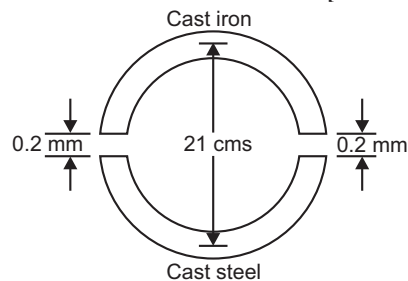

Fig. 8.23
10. A ring [See Fig. 8.23] has a diameter of 21 cm and a cross-sectional area of  $10 \text{ cm}^2$ . The ring is made up of semicircular sections of cast iron and cast steel with each joint having a reluctance equal to an air gap of 0.2 mm. Find the ampere turns required to produce a flux of  $8 \times 10^{-4} \text{ Wb}$ . The relative permeabilities of cast steel and cast iron are 800 and 166 respectively. Neglect leakage and fringing effects. [1783 AT]